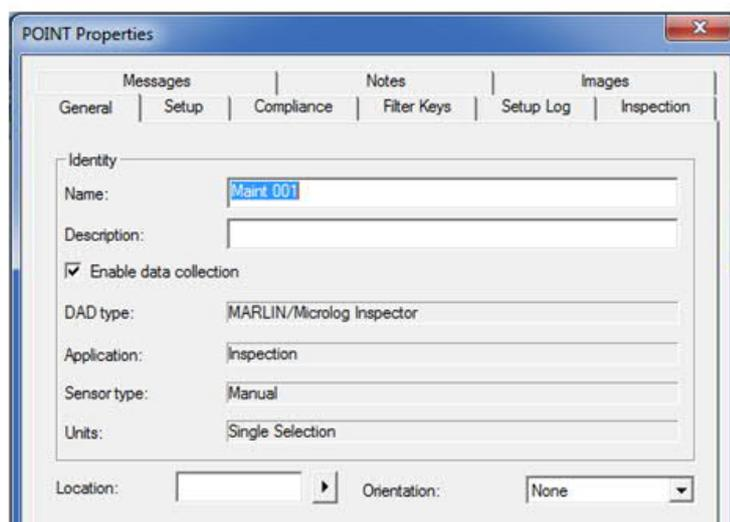

Figure 8. Configuring Maint POINTs
9. Once all the Operations POINTs are complete, the Maintenance POINTs will have to be created. Configure these POINTs (Maint 001, Maint 002, etc.) as MARLIN/Microlog Inspector, Inspection, Manual, Single selection. [Figure 8]